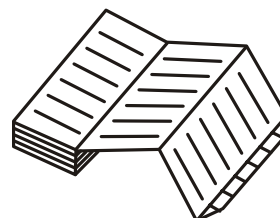

Fig. 3
3. Remove 2 screws for mounting plate fixing the battery. (Fig. 3)
3. As shown in Fig. 3, insert the recording paper with the "begin" tab placed in the cartridge. Check that the printed side is facing out.